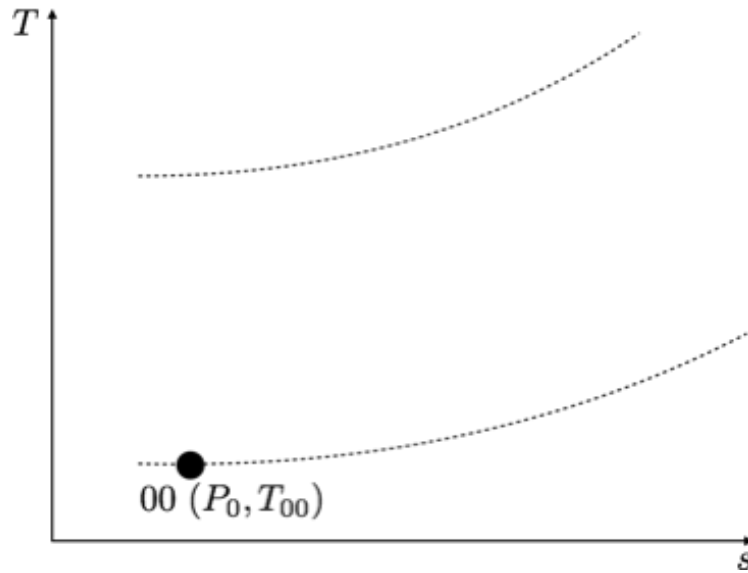

Figure 9: T-s diagram of the Brayton cycle analysis to the GE90 engine.
- (a) (30 pts) Perform the Brayton cycle analysis to the engine using the T - s diagram shown in Fig. 9. Ignore the low-pressure compressor, i.e. assume that the low-pressure turbine drives the fan only. Assume the pressure at the core nozzle exit is the same as the free stream pressure. Complete the T - s diagram with the numbers obtained from your cycle analysis. Mark each station clearly and draw addition constant pressure lines if necessary. Station 0 has been marked for you.